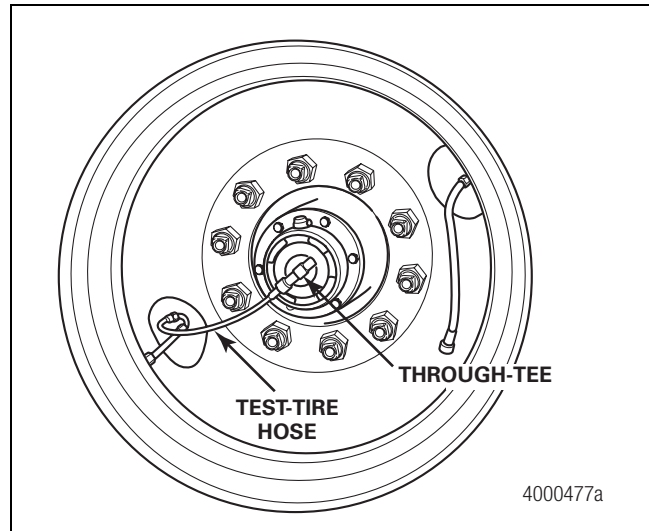

Figure 3.7
9. Choose a tire to test. Hand-tighten the hose to the through-tee. Figure 3.7.